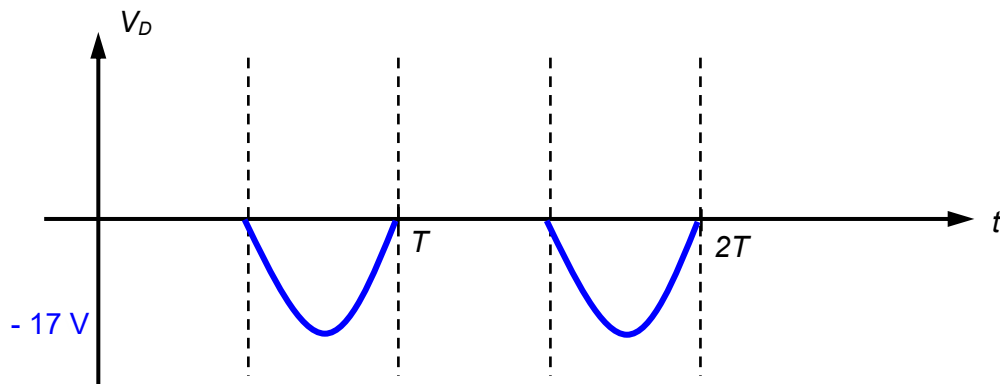

Fig. 8.3
- (d) Hence sketch on Fig. 8.3 the variation of the potential difference across the diode V_D with time t . Label appropriate values. It is given that T is the period of the alternating current.